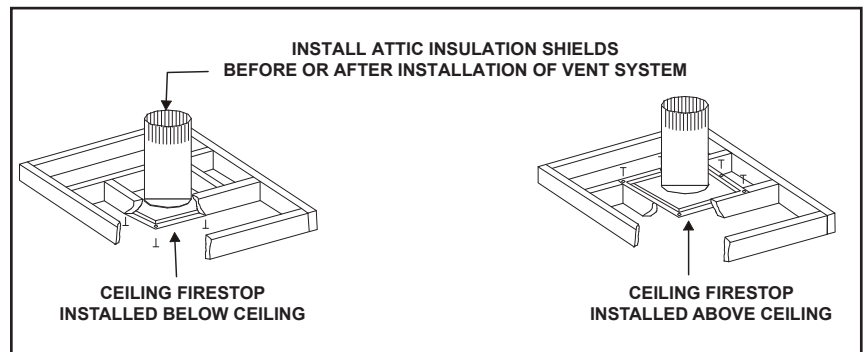

Figure 5.3 - Installing the Attic Shield
- The ceiling firestop may be installed above or below the ceiling joists when installed with an attic insulation shield. It must be under joists between floors that are not insulated. Refer to Figure 5.3.